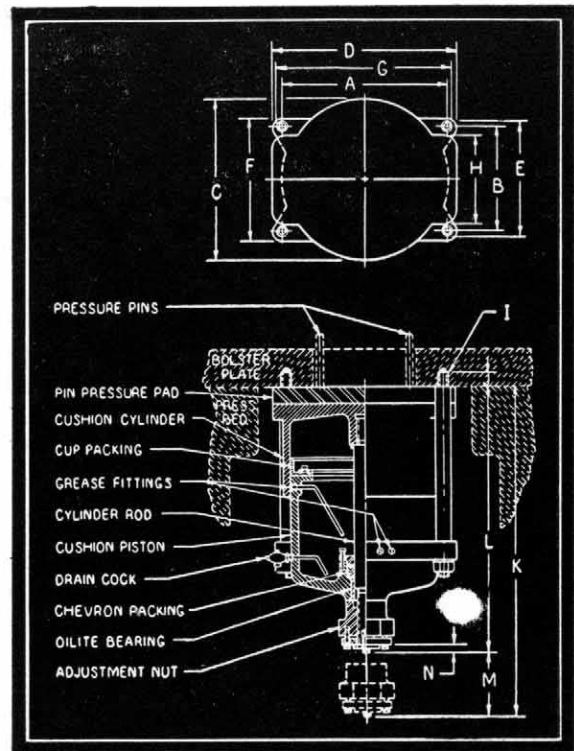

Fig. No. 8
(1) The die cushion should be mounted to the bolster plate so that it is centrally located with reference to the opening in the press bed. (See Fig. No. 8.) To accomplish this it is advisable to scribe the press bed opening on the underside of the bolster plate before removing it from the press. This outline will locate the relative position for attaching the die cushion.
(2) Remove the bolster plate and check both surfaces carefully to make sure they are flat and parallel. **THIS IS IMPORTANT!** If surfaces are bowed or not parallel, have them machined and then replace the bolster plate on the press and again scribe the opening on the underside of it.
(3) Layout hole centers on the underside of the bolster plate according to dimensions "A" and "B" shown on Page No. 5. The tolerances on these holes must be held to a maximum of plus or minus 1/64", otherwise the mounting rods will not line up with the holes in the bottom flange of the die cushion unit. Drill and tap holes according to dimensions "I" and "J", making sure that the holes are square with the surface of the bolster plate. (See p. 2.) If blind holes are used, be sure a minimum length of full thread is tapped in the bolster plate.
(4) Bolt the bolster plate onto the press bed in its normal position.
(5) Screw the ends of the four mounting rods with the short length of thread into the bolster plate. Make sure that the shoulders of these rods are securely screwed up to the plate.